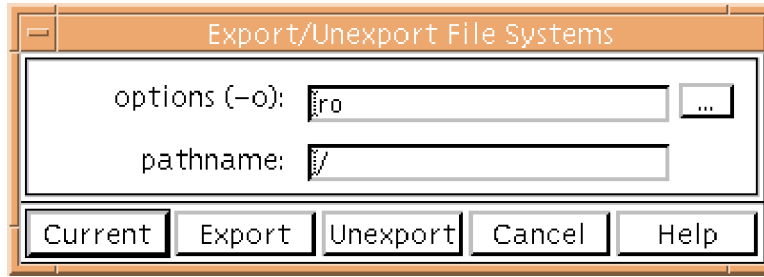

Figure 17. Export/Unexport File Systems Window
Used to export or unexport a file system in order to allow or deny file system sharing. Select the **EXPORTFS** option to open the **Export/Unexport File Systems** window (Figure 17).
- STEP 1: **Select a file system.** Click on a file system in the list in the Disk Manager window to highlight it and then click on the EXPORTFS button. The Export/Unexport File Systems window appears (Figure 17).